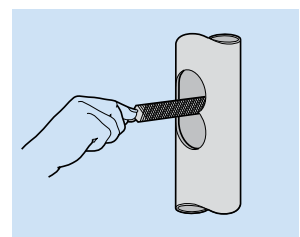

Fig. 52
- Remove sides of aperture using a medium file (Fig. 52).